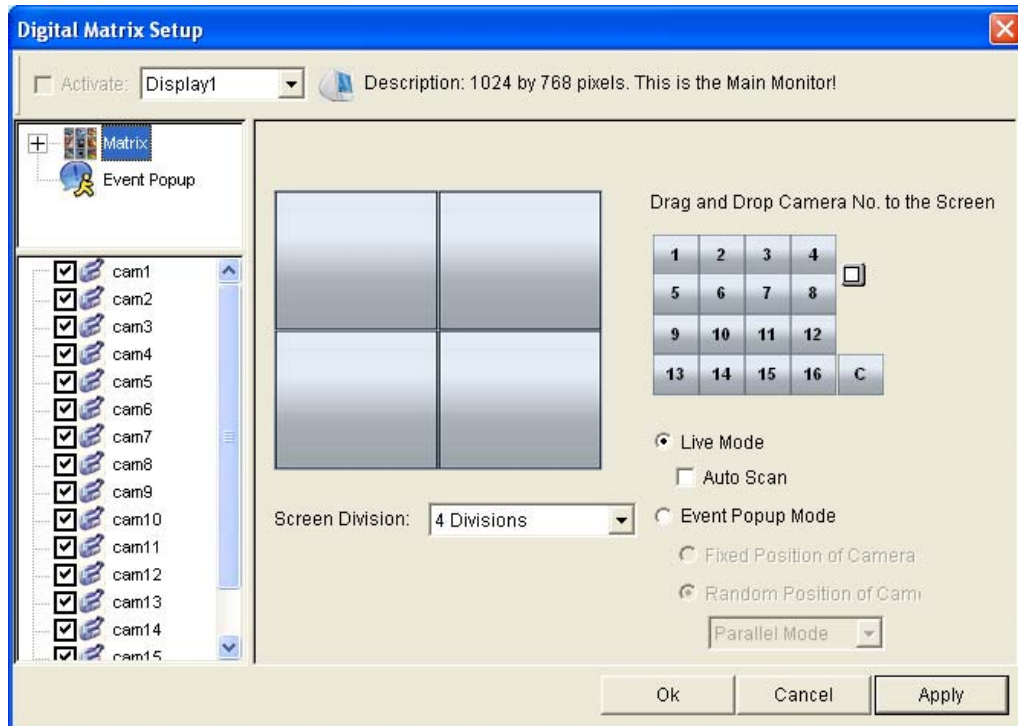

Figure 11-77
9. In the upper-left column, click the **Matrix** icon and return to Figure 11-77.
4. After above settings, click the **Matrix** icon and return to Figure 11-77.
2. To configure pop-up alert, in the upper left column, click **Event Popup**. Figure 11-77 appears.
4. Click the **Matrix** icon and return to Figure 11-77. Ensure the **Live Mode** option is selected.